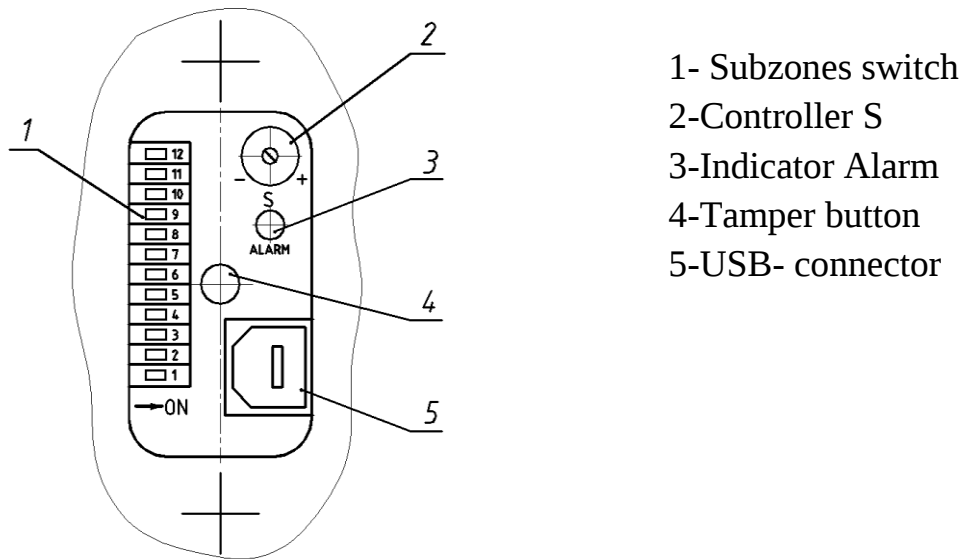

Fig.9.2 Built-in adjustment and indication parts
- 9.1.3. The necessary configuration of the detection zone is set with 12-position micro switch. The sensitivity is changed with the controller Sensitivity (S) as shown in fig.9.2.